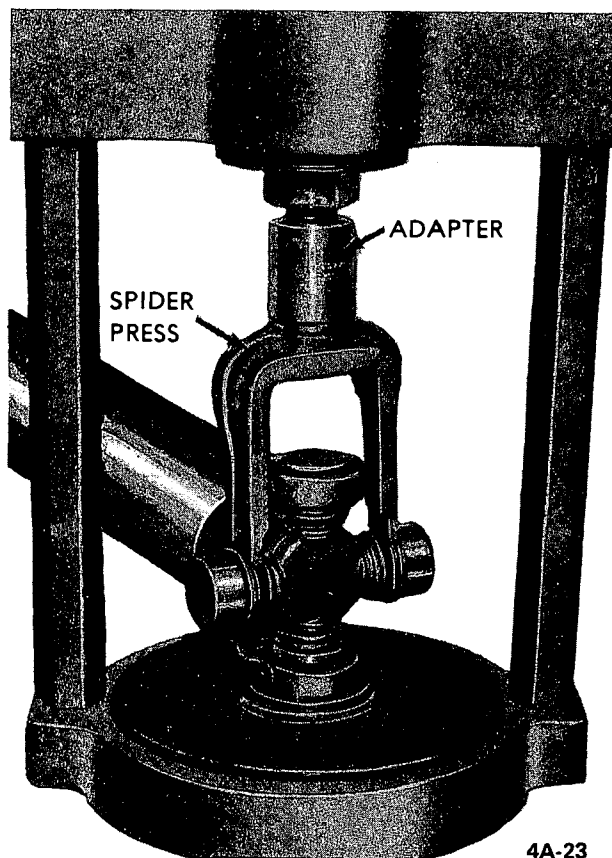

Figure 4A-23 - Pressing Out U-Joint Bearing
1. Position propeller shaft and spider press J- 9522-3 in power ram equipped with base plate J-8853 and ram screw adapter J-9522-2. See Figure 4A-23.